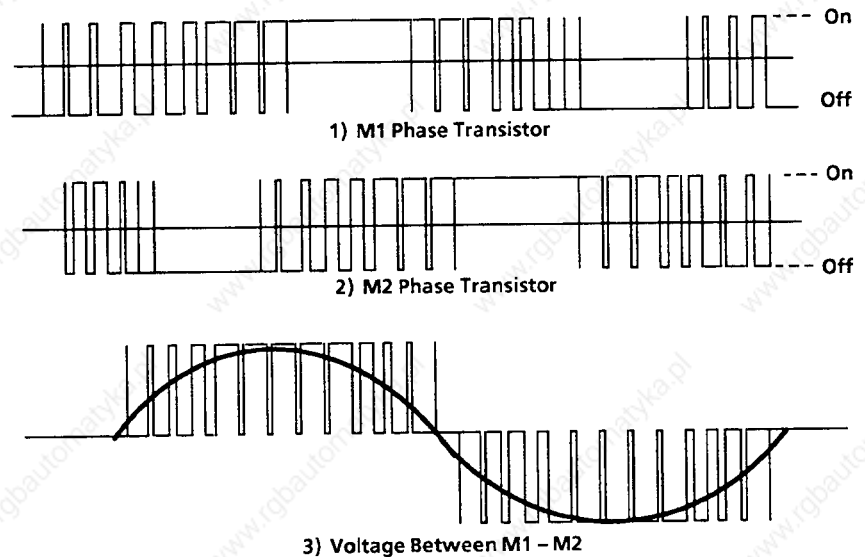

Figure 5.1b – Inverter Section Output Waveforms
1) and 2) in figure 5.1b shows the output waveforms for output phases M1 and M2. The pulses generated in the Control Circuit are fed to the base of the inverter transistors by means of the Base Driver. These pulse signals then cause the transistor to perform a switching operation according to the base driver signal. Waveform 3) in figure 5.1b is the logical summation of phase outputs M1 and M2. The output mean voltage now becomes sinusoidal, and motor current that approximates a sinusoidal value flows through the motor.
2. It generates commands (pulses) which are fed to the **Base Driver** which in turn generates the required output frequency and voltage as shown in figure 5.1b.